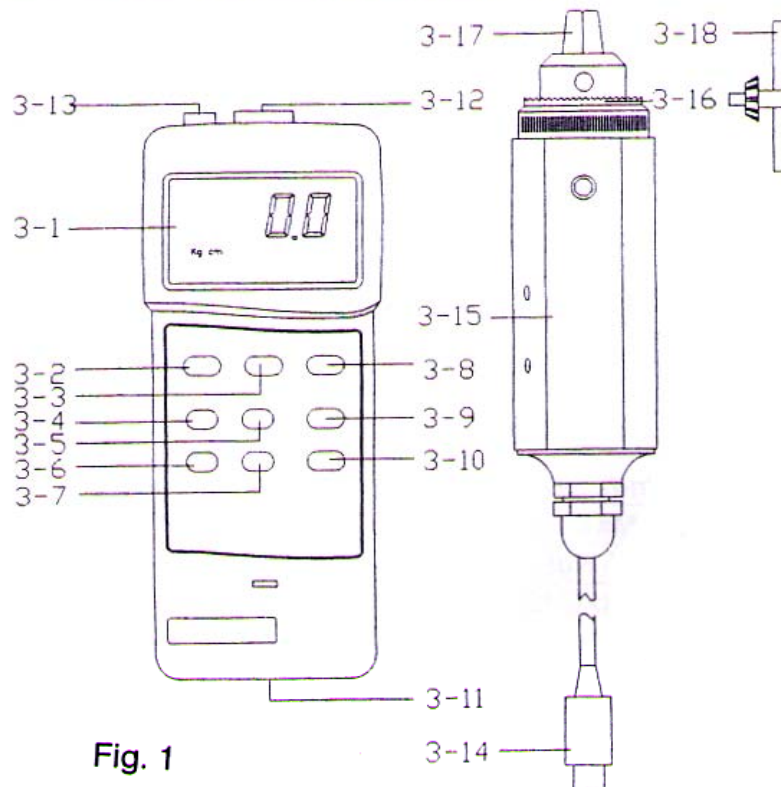

Fig. 1
- 1) Plug in the " Sensor Cable Plug " (3-14, Fig. 1) to meter's " Sensor Input Socket " (3-12, Fig. 1).
- 2) Power on the meter by push the " Power Button " (3-2, Fig. 1).
- 3) Push the " Sensor Type Button " (3-8, Fig 1) to check if the meter's sensor type is same as the external torque sensor.
Push the " Unit Button " (3-5, Fig. 1) to select the unit Kg-f-cm, LBf-inch or N-cm (Newton-cm).
Push the " Resolution Button " (3-7, Fig. 1) to select the High resolution or Low resolution.
The " Fast/Slow Button " (3-10, Fig. 1) is used to select the fast sampling time or slow sampling time.
- 7) To connect the " Cramp " (3-17, Fig. 1) to the measured installation and use the " Opinion " (3-18, Fig. 1) to lock the " Gear " (3-16, Fig. 1). Ref. Fig. 2 & Fig. 3.
Before the measurement, if the meter not show zero value, it can push the " Zero Button " (3-9, Fig. 1) to tare the display value, the LCD will change to zero value.
During the measurement, push the " Peak Button " (3-6, Fig. 1), the LCD will show the " PEAK " indicator & the display will hold the peak value.
During the measurement, pushing the " Hold Button " (3-3, Fig. 1) will freeze the measured value & display will indicate " HOLD " symbol. Push the " Hold Button " again to release the data hold function.
* The DATA RECORD function displays the maximum and minimum readings. To start the DATA RECORD function, press the " Max./Min. Button " (3-4, Fig. 1) once. " REC " symbol will appear on the LCD display.
(a) Push the " Max./Min. Button " (3-4, Fig. 1) once, the " Max " symbol along with the maximum value will appear on the display.
To disable this feature, Select the memory record function during measurement, by pressing the " Max./Min. " button (3-4, Fig. 1).
The instrument features an RS232 output via 3.5 mm Terminal (3-13, Fig. 1).
- 2) Slide the Battery Cover (3-11, Fig. 1) away from the instrument and remove the battery.